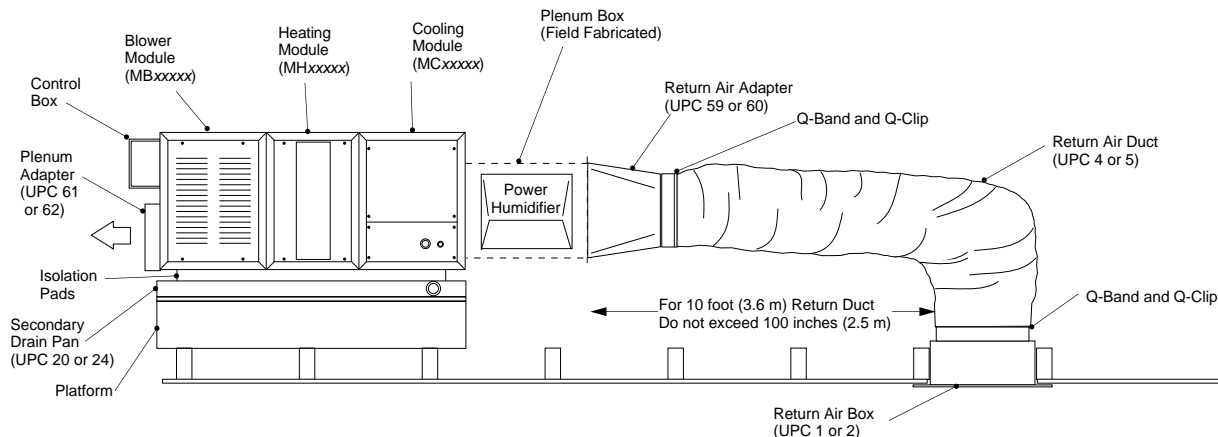

Fig 1. Typical Humidifier placement within the *Unico System*
- 1.) **Heated Pan or Steam Type Humidifiers.** One of the more viable choices is the heated pan or steam type humidifier that can be mounted in the supply or return plenum. See Fig. 1 for detail of placement. In such cases the plenum should be insulated sheet metal. Because of the small plenum size and high pressure of the *Unico System*, the return location would be a better choice. A plenum box can be fabricated to match the end of the *Unico System* coil module and the humidifier mounted through the side or